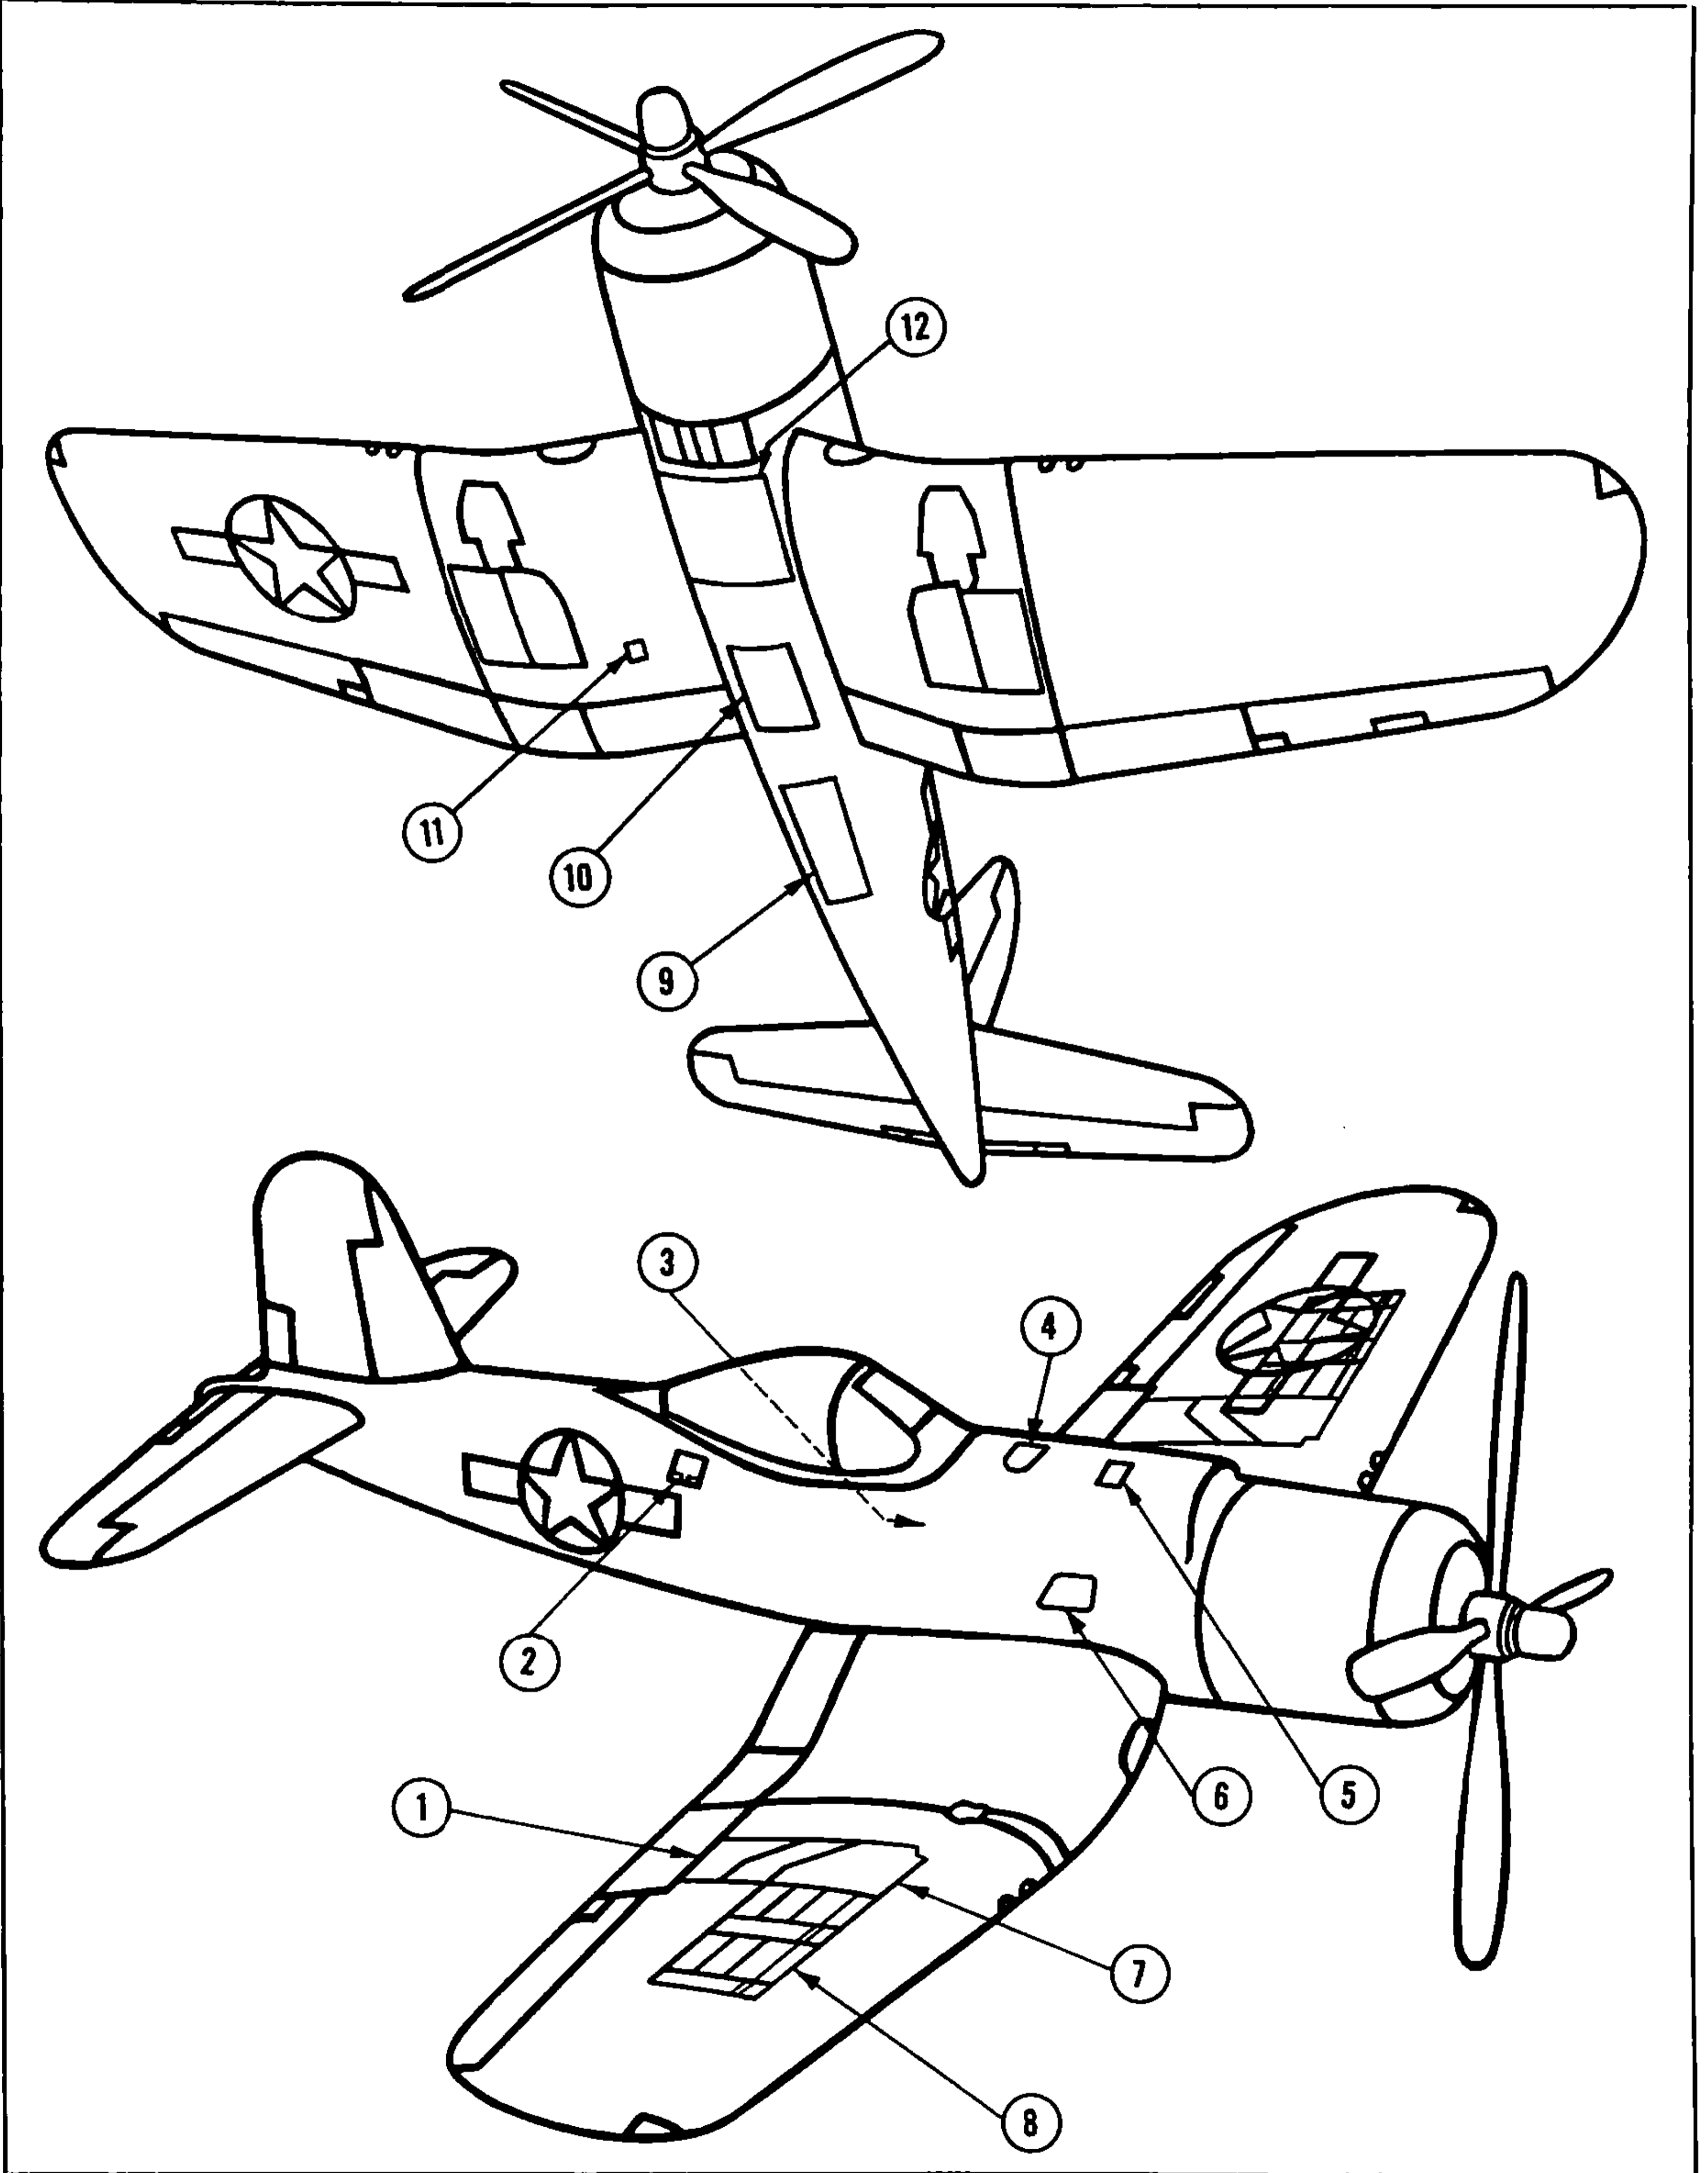

Figure 21 — Service Points
(c) Check to see that the oil dilution plug valve is open. (See 8, figure 14.) This valve is accessible through the oil cooler flap. (See 12, figure 21.)
(1) Except in emergencies, the engine should be started with external, or "shore," power by means of the receptacle on the underside of the right wing. (See 11, figure 21.)
(2) In cold weather the oil should be heated if it has not already been diluted prior to stopping. (Refer to Oil Dilution, paragraph 4,c above.) In
Nomenclature — Figure 21